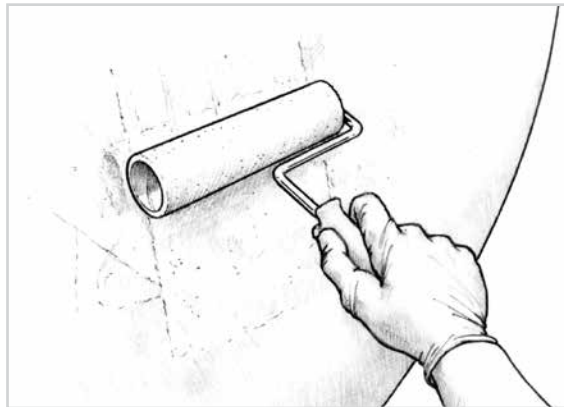

Figure 14-4 Wet out the surface with resin/hardener mixture. To avoid sags, allow the wet-out coat to gel before applying fairing compound.
2. Wet out the surface with resin/hardener mixture (Figure 14-4). It is a good idea to coat the entire surface or repair area at this time. When coating metal surfaces, you can increase the ultimate adhesion of the fairing material by sanding the wet epoxy mixture
2. Wet out the surface with resin/hardener mixture (Figure 14-4). Coat the entire surface or repair area at this time. To avoid sagging, allow the wet-out coat to gel before applying the fairing compound. Sanded epoxy surfaces do not need to be wet out.